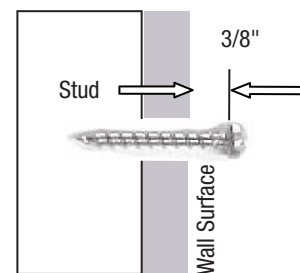

Figure 2
*NOTE:* If the screws are being driven directly into a stud, pre-drill the screw holes using a 1/8" drill bit and drive the screws without using anchors, leaving 3/8" of each screw protruding from the surface of the wall, as shown in **Figure 2**. (Skip to **STEP 3**)